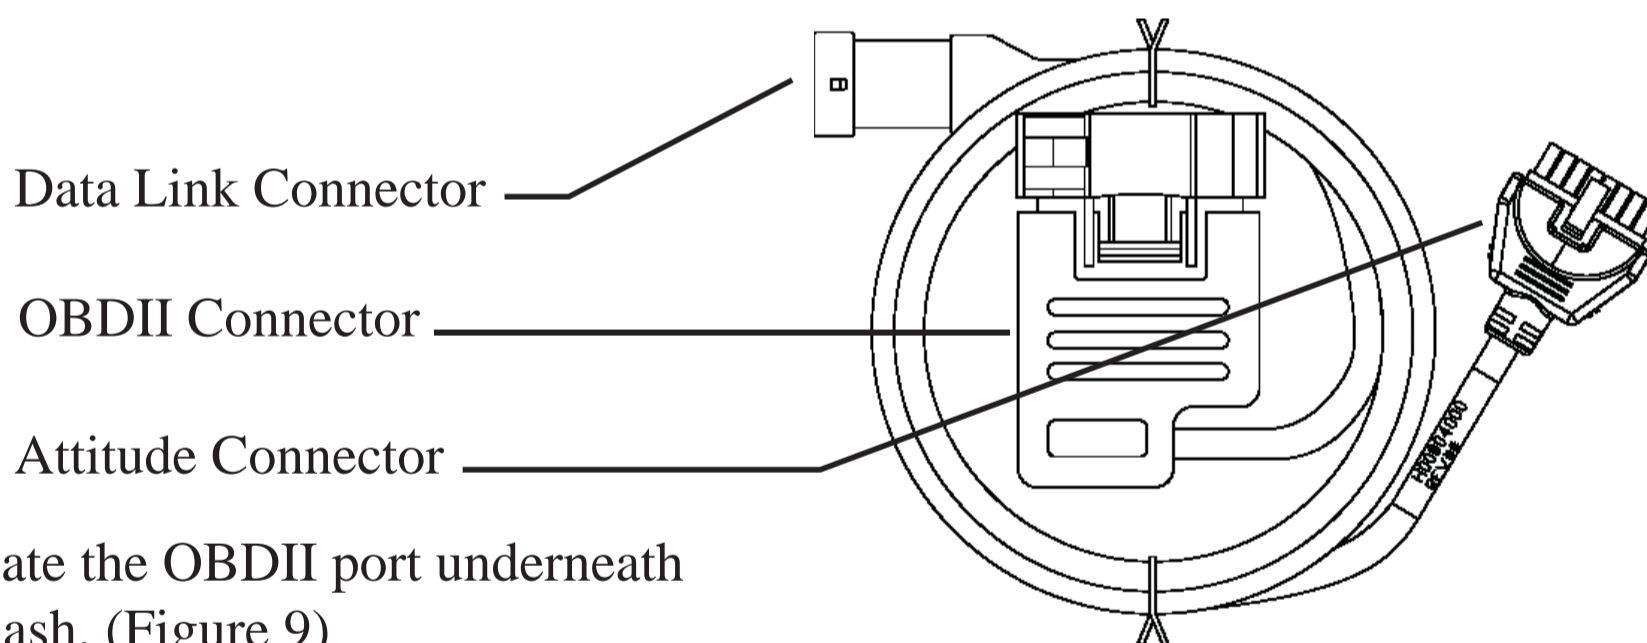

Figure 8 - DATA/OBDII Cable
1. Locate the “DATA/OBDII” cable provided in the box from Edge. (see “Supplied Items”) *NOTE: There are 3 different connectors on this one cable. Refer to Figure 8 for more detail.*
Connection 5 - Locate the OBDII connector under the dash, and plug in the supplied OBDII cable. Route the opposite end to the data link connector on the main harness, and plug them together. See Figures 8,9, and 10 on pages 30 & 31 of this manual.